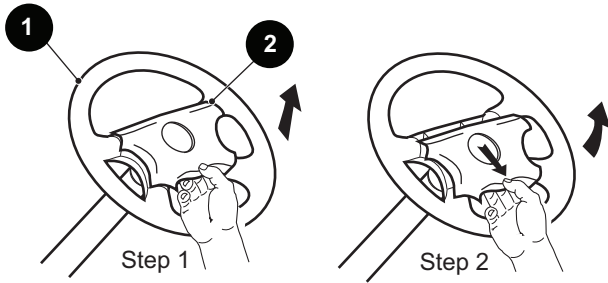

Figure 4 Steering Wheel Cover Removal
- From the front side of the steering wheel (1), remove the hub cover (2) by first pulling straight up on the bottom of the hub cover to release the two bottom retaining tabs.
- Pull down, and then push up to release the two top retaining tabs (Ref Fig. 4).